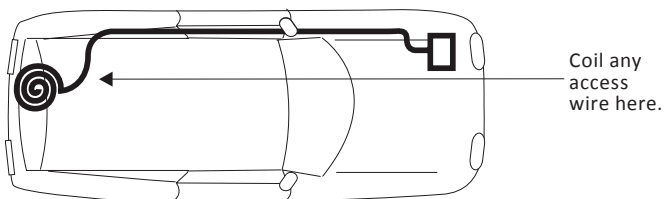

Figure 4-3
- If the harness is too long, coil the extra wire and secure it to the vehicle's bumper using the wire ties provided. **See Figure 4-3.**